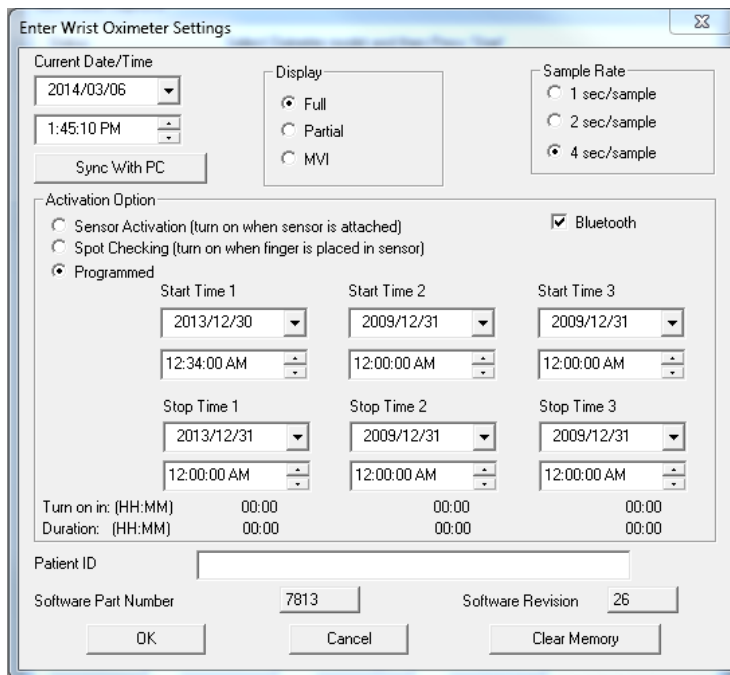

Figure 20: nVISION Settings Window
6. “Enter Wrist Oximeter Settings” window opens (figure 20). Update or change settings as needed.